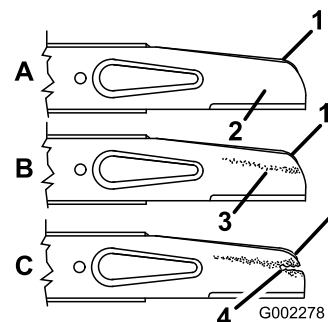

Figure 30
2. Remove the blade bolt, the lock washer, the accelerator, and the blade (Figure 30).